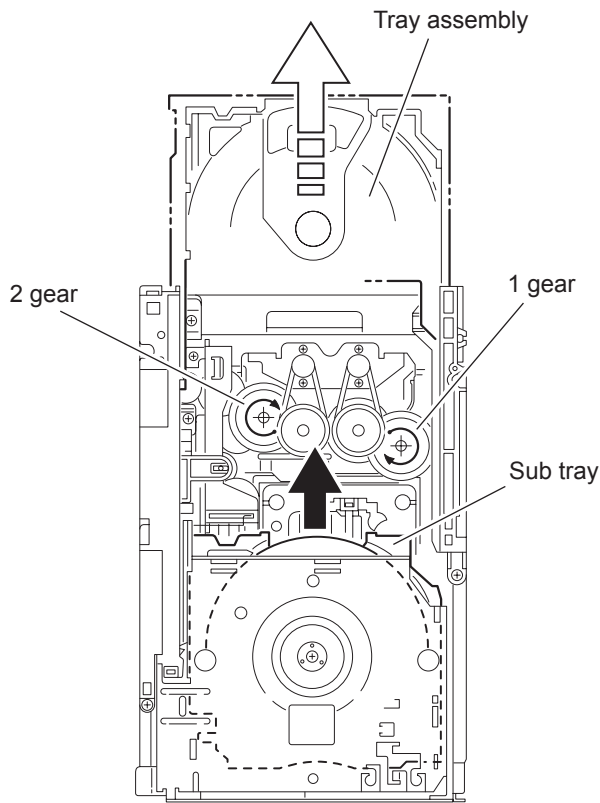

Fig.36
3.2.12 Taking out the CD in play mode (See Fig.36 ~ 39)